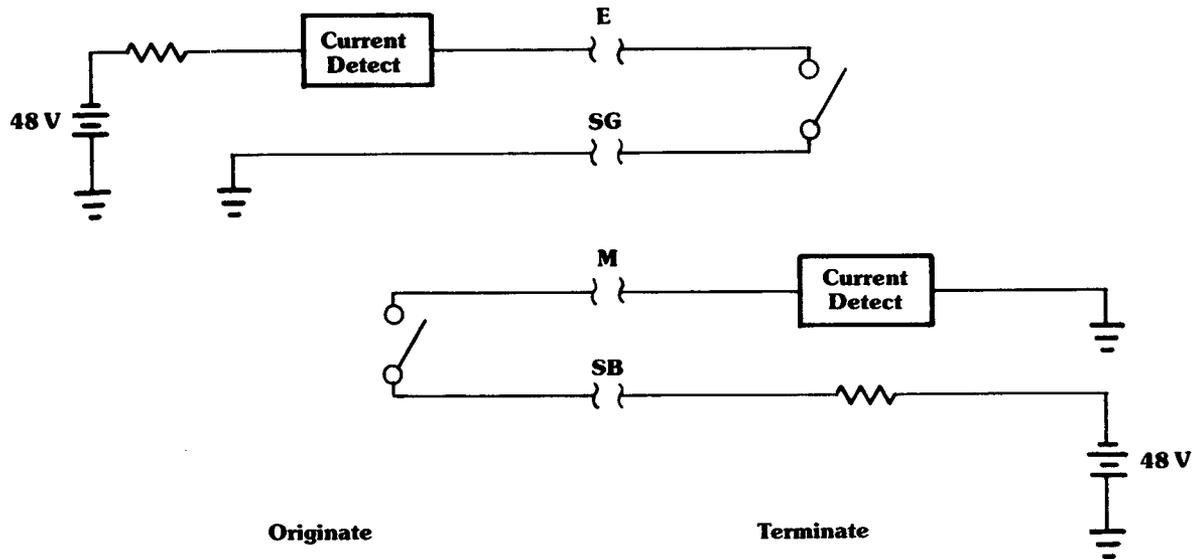

Figure 16. E/M type II signaling.
There is a problem with E/M type I. Its operation depends on the fact that the ground potential at the two ends differs by less than 3 volts. For trunk lines that go between two PBX's in different buildings, this is often not the case. So now comes E/M Type II to the rescue. By adding two more wires to Sense Ground (SG) and Sense Battery (SB), we can avoid ground loop problems (figure 16).